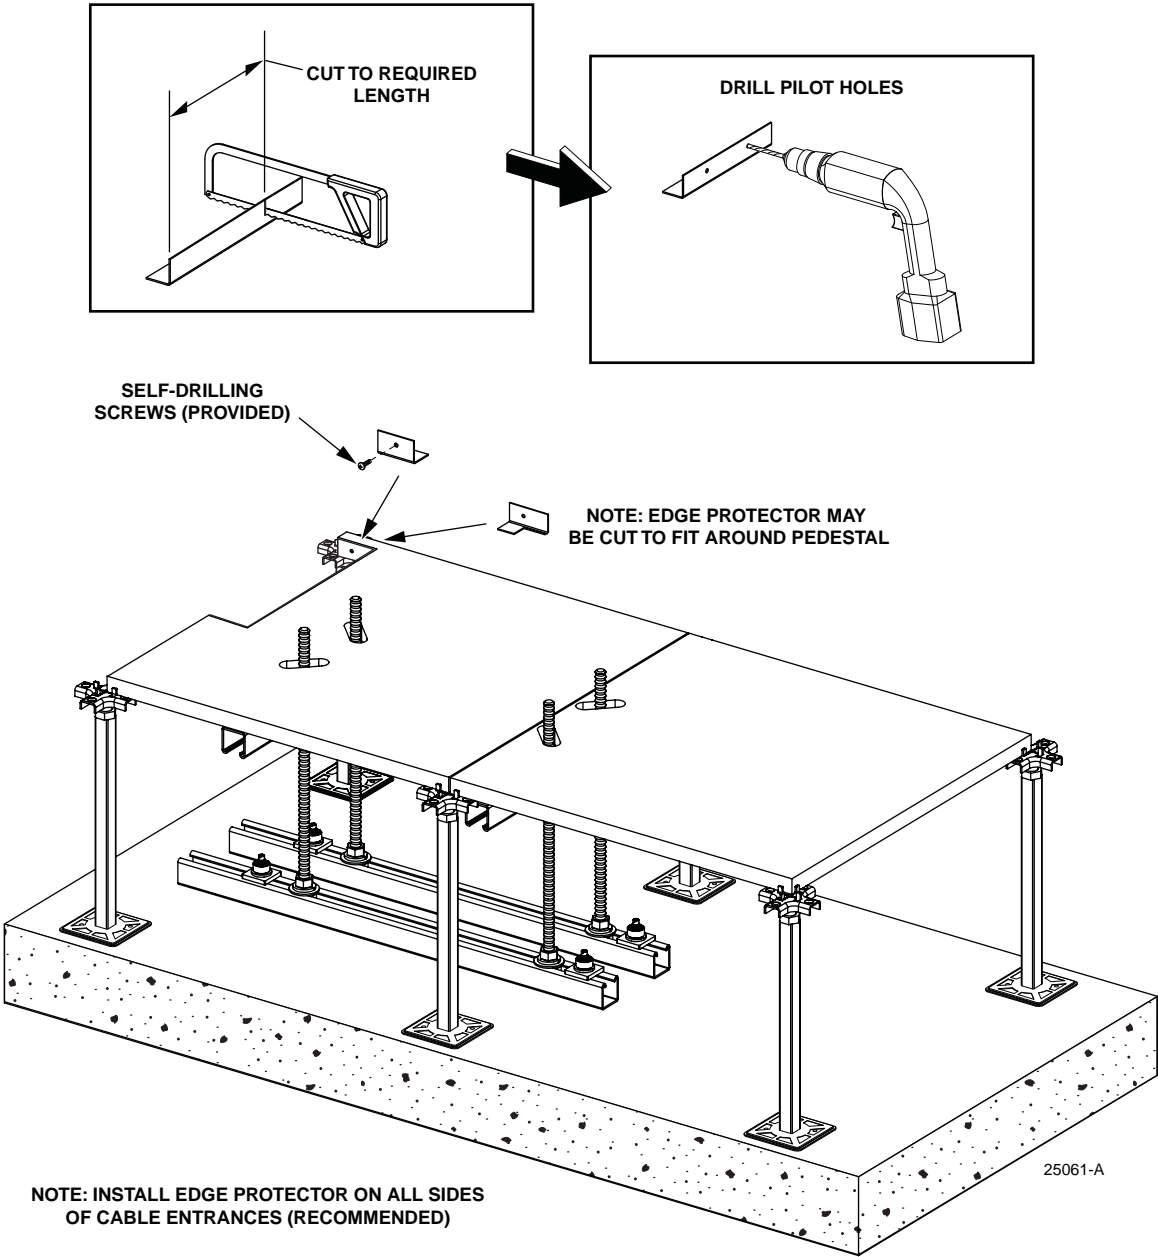

Figure 19. Installing Edge Protectors
18. Cut out edge protectors to the required length for the slots in the floor tile. Secure the edge protectors to the floor tiles using self-drilling screws (provided). Refer to Figure 19.